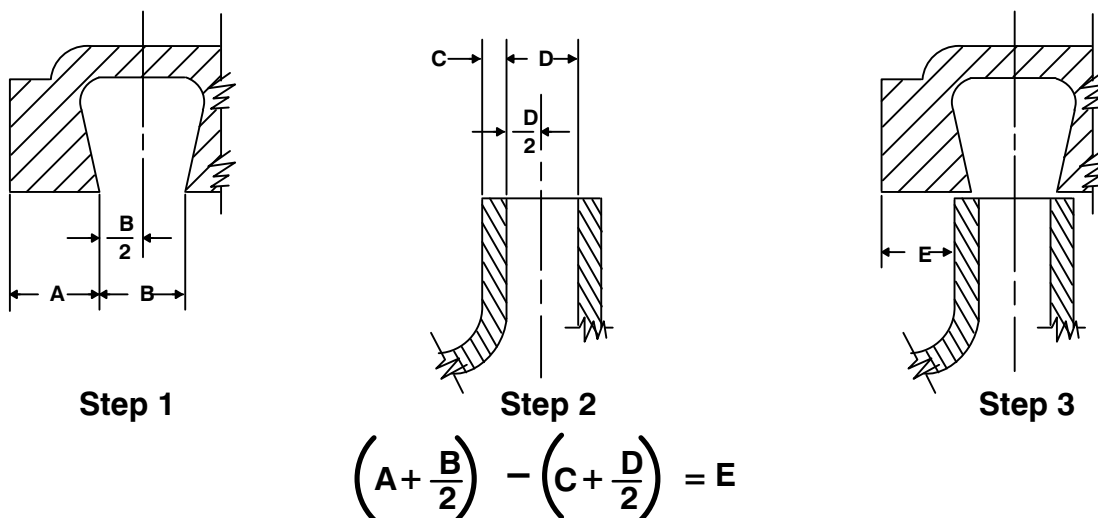

Figure 3. Centering Impeller Within Volute Scroll
To verify the impeller positioning, measure the pump casing and impeller as shown in Figure 3. Use these measurements to calculate the required impeller location (dimension E). Add or remove impeller adjusting shims (53) until dimension E is obtained.